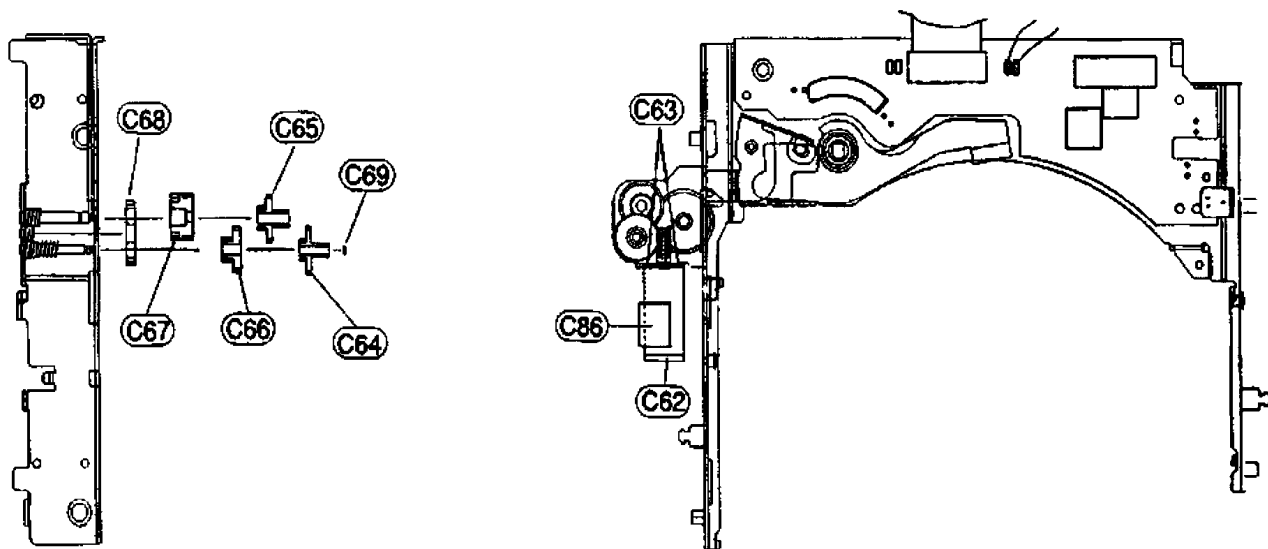

Fig.8
- F. How to dismount the Elevator Motor ASSY (Magazine Motor ASSY) (C62) [Refer to Figure 8]: